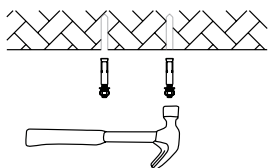

FIGURE 4
2. Fix screws (by others) into the holes with a hammer (Figure 4).